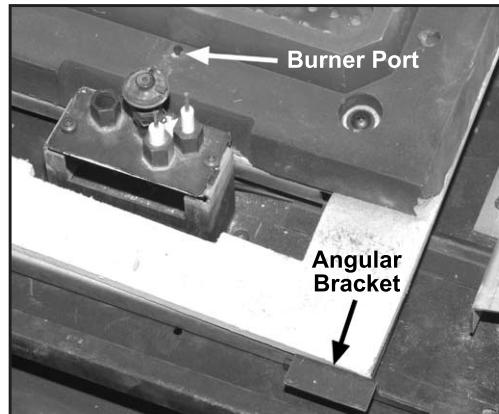

Figure 87: Glass Burner in Place.
2. Pull the burner forward up to the angular brackets near the front of the firebox (see Figure 87). The burner rests on the floor of the firebox and is properly aligned against the two (2) front burner rests.
4. In front of the pilot assembly, on the front edge of the burner is one burner port which helps in the lighting of the main burner (see Figure 87). The glass tray has one hole in the same position that allows the gas to flow to this location. Ensure the glass tray hole is properly positioned over the port in the burner.